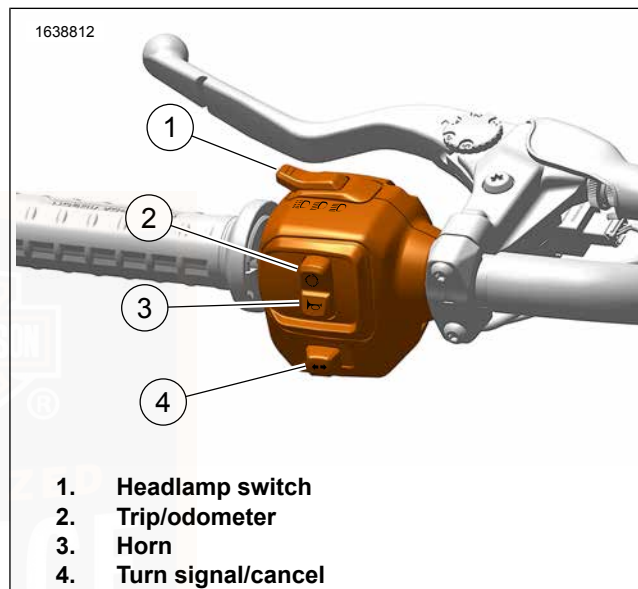

Figure 39. LHCM (Without Infotainment)
- **Flash to Pass:** See Figure 39. When the headlamp switch (1) is in the low beam position, press down and release the headlamp switch to use the flash to pass to flash the high beam before passing another vehicle. The high beam indicator on the IM is illuminated as long as the flash to pass button is pressed. When in accessory, press the flash to pass button to activate the headlamp.
- **Low Beam:** See Figure 39. From the high beam position, press the headlamp switch (1) down to activate the low beam.
- **High Beam:** See Figure 39. Press the headlamp switch (1) up to activate the high beam. The (blue) high beam indicator lamp is lit when the high beam is on.
See Figure 39. The trip button (2) activates the trip odometers. The trip button also is used to scroll through the additional screens of the odometer display. With the ignition off, the trip button can activate time or odometer displays.
- **Left turn signal:** See Figure 39. Push the turn signal switch (4) to the left to activate the left turn signal.
- **Right turn signal:** See Figure 39. Push the turn signal switch (4) to the right to activate the right turn signal.
- **Cancel:** See Figure 39. Press the turn signal switch (4) straight in to manually cancel the signals.
See Figure 39. The horn is operated by pressing the horn button (3). The horn can be activated for up to 10 s at a time. If the horn button is held for a longer period, the horn automatically deactivates.